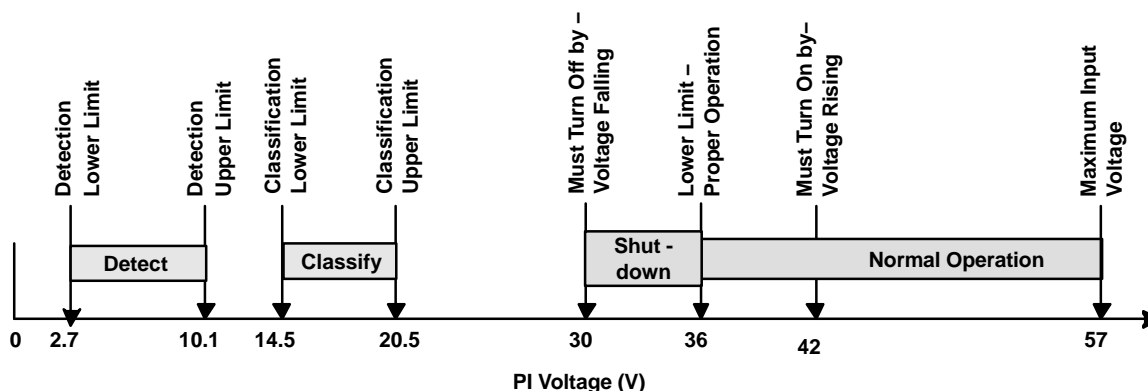
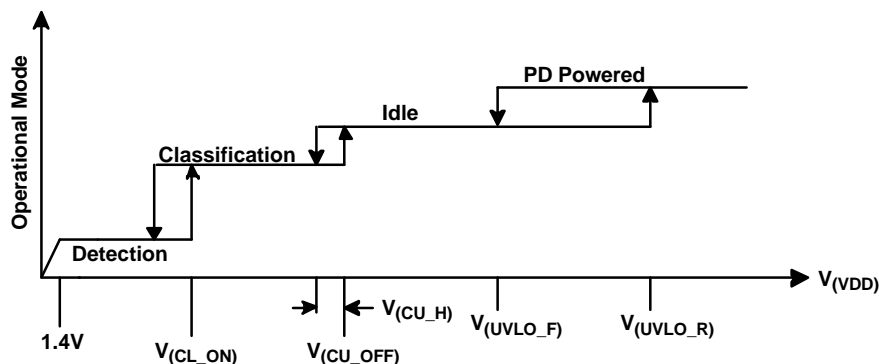

Figure 16. IEEE 802.3 PD Limits
Figure 17. Threshold Voltages
The IEEE 802.3af specification defines a process for safely powering a powered device (PD) over a cable, and then removing power if a PD is disconnected. The process proceeds through three operational states: detection, classification, and operation. The intent behind the process is to leave an unterminated cable unpowered while the PSE periodically checks for a plugged-in device; this is referred to as detection. The low power levels used during detection are unlikely to cause damage to devices not designed for PoE. If a valid PD signature is present, then the PSE may optionally inquire how much power the PD requires; this is referred to as classification. The PD may return a default full-power signature, or one of four other choices. Knowing the power demand of each PD allows the PSE to intelligently allocate power between PDs, and also to protect itself against overload. The PSE powers up a valid PD, and then monitors its output for overloads. The maintain power signature (MPS) is presented by the powered PD to assure the PSE that it is there. The PSE monitors its output for the MPS to see if the PD is removed, and turns the port off, if it loses the MPS. Loss of MPS returns the PSE to the initial state of detection. Figure 16 shows the operational states as a function of PD input voltage range.
In order to implement the PoE functionality as shown in Figure 16, the TPS2375-1 has a number of internal comparators with hysteresis for stable switching between the various states. Figure 17 relates the parameters in the Electrical Characteristics section to the PoE states. The mode labeled *idle* between classification and detection implies that the DET, CLASS, PG, and RTN pins are all high impedance.
The classification process applies a voltage between 14.5 V and 20.5 V to the input of the PD, which in turn draws a fixed current set by $R_{(CLASS)}$. The PSE measures the PD current to determine which of the five available classes (Table 1) that the PD is signalling. The total current drawn from the PSE during classification is the sum of bias currents and current through $R_{(CLASS)}$. The TPS2375-1 disconnects $R_{(CLASS)}$ at voltages above the classification range to avoid excessive power dissipation (Figure 16 and Figure 17).
The TPS2375-1 incorporates an undervoltage lockout (UVLO) circuit that monitors line voltage to determine when to apply power to the downstream load and allow the PD to power up. The IEEE 802.3af specification dictates a maximum PD turnon voltage of 42 V and a minimum turnoff voltage of 30 V (Figure 17). The IEEE 802.3af standard assumes an 8-V drop in the cabling based on a 20- Ω feed resistance and a 400-mA maximum inrush limit. Because the minimum PSE output voltage is 44 V, the PD must continue to operate properly with input voltages as low as 36 V. The TPS2375-1 UVLO limits are designed to meet the turnon, turnoff, and hysteresis requirements.
The TPS2375-1 uses the UVLO function to control the load through an integrated MOSFET switch. Figure 17 graphically shows the relationships of the UVLO thresholds defined in the Electrical Characteristics section to the TPS2375-1 operational states.